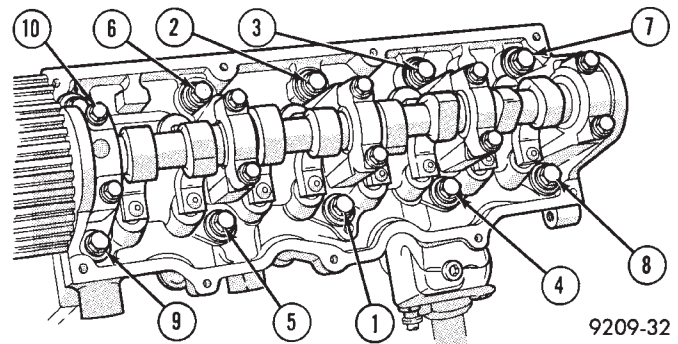

Fig. 16 Cylinder Head Tightening Sequence
(1) Position new head gasket on the cylinder block.
(2) Tighten the cylinder head bolts in the sequence shown in (Fig. 16). Using the 4 step torque turn method, tighten according to the following values: